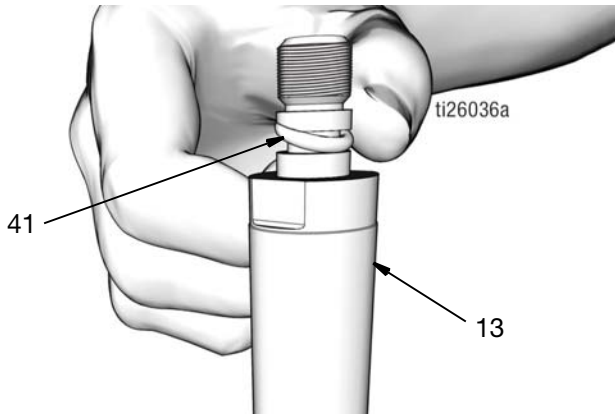

FIG. 46
- a. Use a clean cloth to wipe down the piston rod (13) and piston (6) and remove any dirt or contaminants. Inspect surfaces for any scratches or damage. Replace damaged parts.\
- b. Apply a thin layer of grease to o-ring (41). Install o-ring over the grooves of the piston rod (13) (FIG. 46).